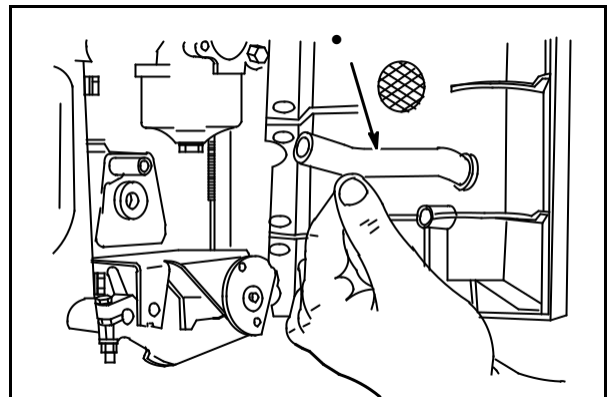

Fig. 14
Check breather tube(s) (1) for cracks, holes or hardening, **Fig. 14**. Replace if damaged.